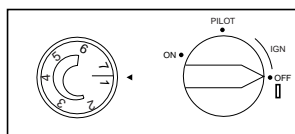

Figure 20 - Dual Control for Thermostat Models FBS-3B and FBS-5B
3. Push in control knob slightly and turn clockwise to the OFF position. Be sure that the temperature setting knob is set at the line between level 1 and level 7 (see Figure 20).
7. Press in control knob and turn counterclockwise past IGN to PILOT (see Figure 20). This will cause the piezo ignitor to spark and light the pilot gas. Keep control knob depressed for 10 seconds before releasing. If needed, repeat steps 5 through 7 until pilot lights.